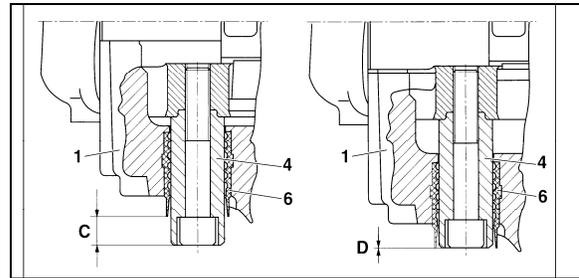

FIGURE 37: BRAKE PAD CHECK 12117
Brake pads have to be checked on a regular basis depending on the vehicle operation. The remaining thickness of the pads should never be less than 3/32 inch (2 mm). To check pad condition without removing the wheel, verify the position of guide bushing (6) relatively to guide sleeve (4) (Fig. 37). When guide sleeve is in alignment with guide bushing, brake pad thickness must be checked more precisely with wheel removed. When replacing the brake pads, all four pads on an axle have to be changed at the same time. There is no inner or outer pad, since all pads are the same. Worn pads should be replaced in the same position.